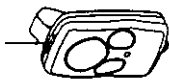

Figure 7-1
- Using a small coin press open the slot at the top of the transmitter. (Figure 7-1)